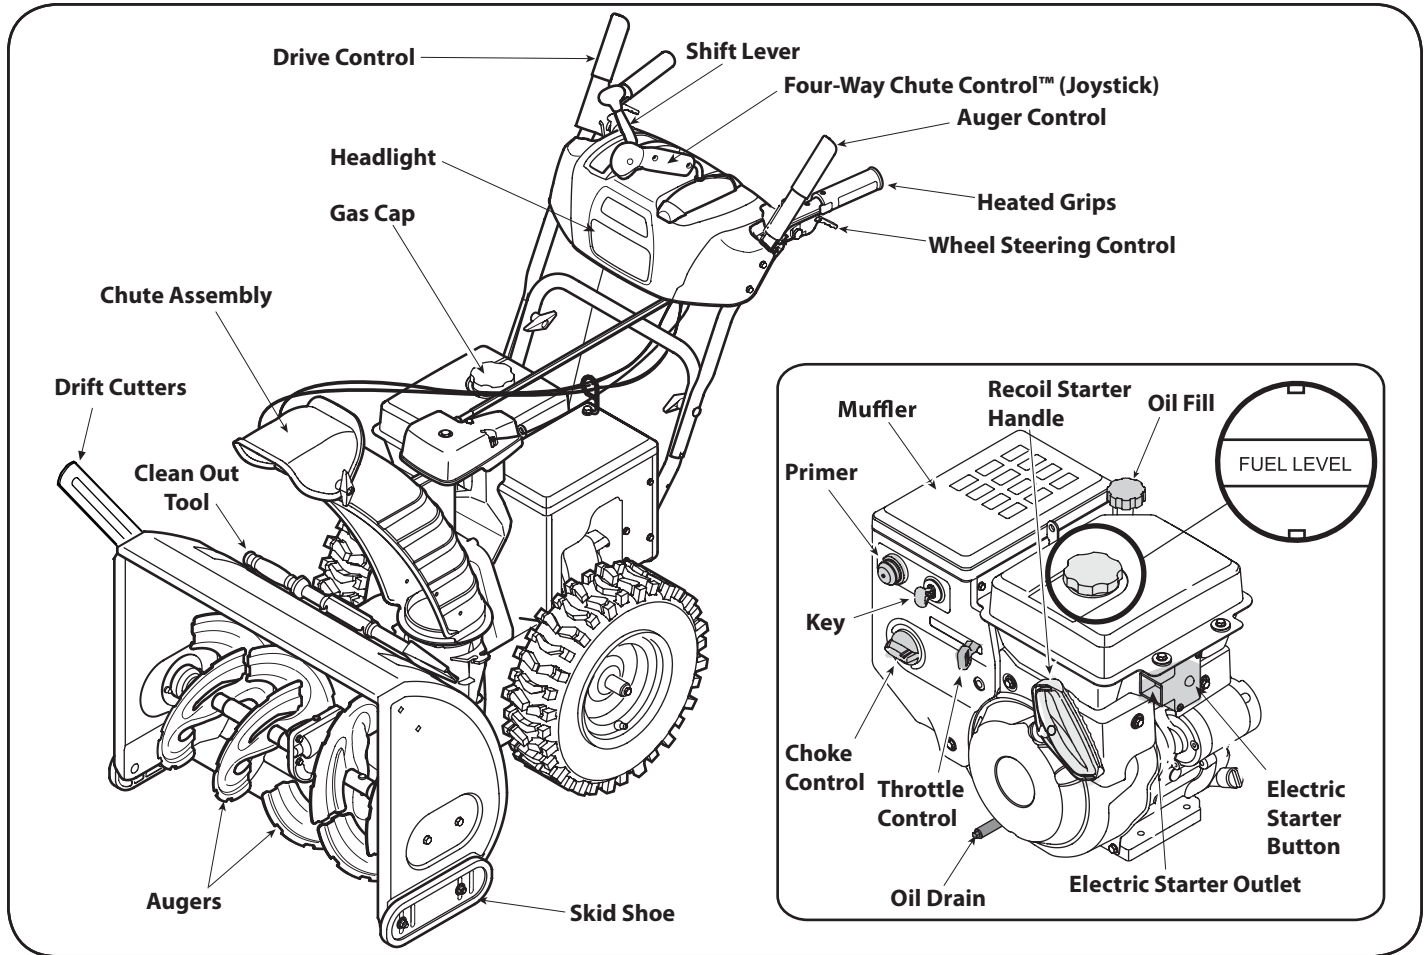

Figure 19
Now that you have set up your snow thrower, it's important to become acquainted with its controls and features. Refer to Figure 19.
2. A fuel level indicator is located in the fuel tank. See Figure 19 inset. Be careful not to overfill. Fill tank until fuel reaches the fuel level indicator to allow space for fuel expansion.